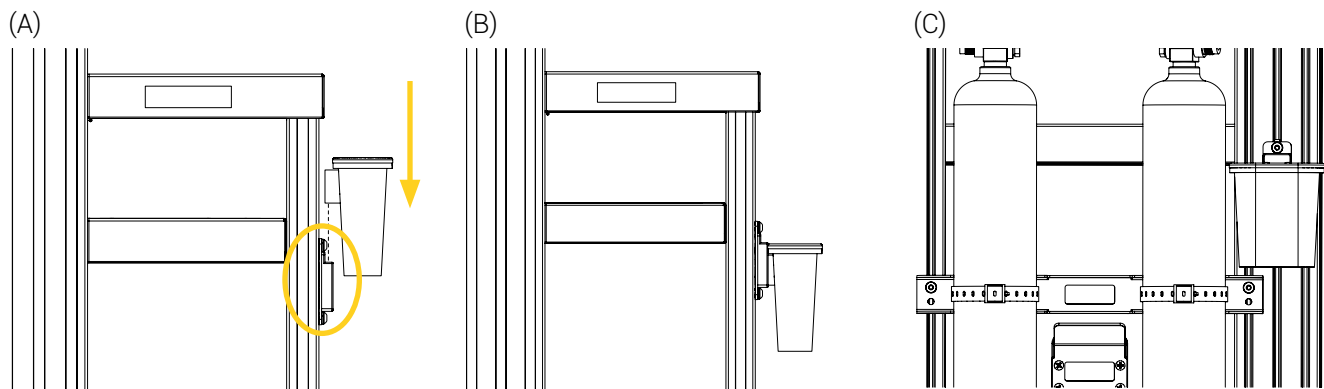

Figure 21 : Installation of the Serres suction canister (side and front of the transport cart illustrated)
1. Insert the built-in bracket of the Serres suction canister in the support plate, until it has reached the bottom of the support plate (Figure 21).